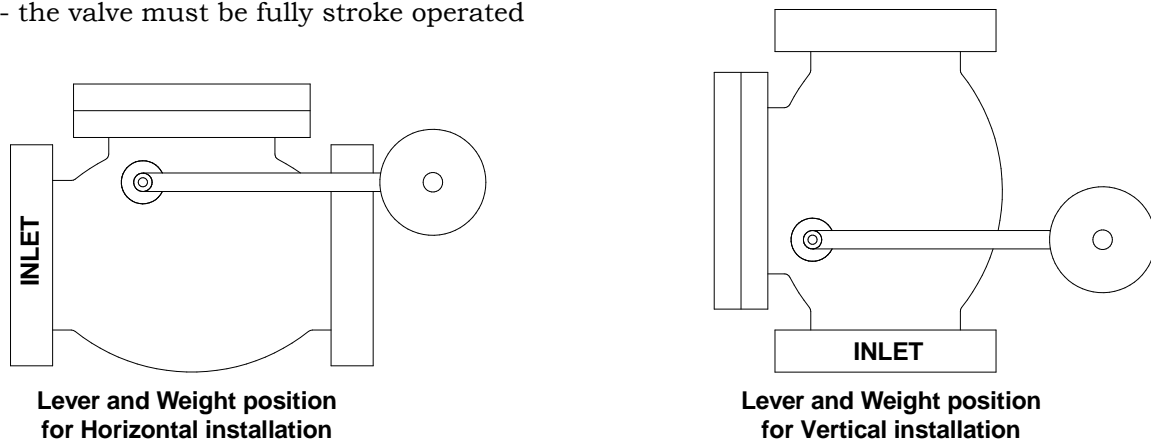

FIGURE 2. APOLLO® IRON SWING CHECK VALVE WITH LEVER AND WEIGHT
- Step 3. Place the valve between the two flanges of the pipe and put the seal gasket between the valve flange and the pipe flange; make sure that it is correctly positioned. **See Figure 2 for correct positioning of Lever and Weight option.**